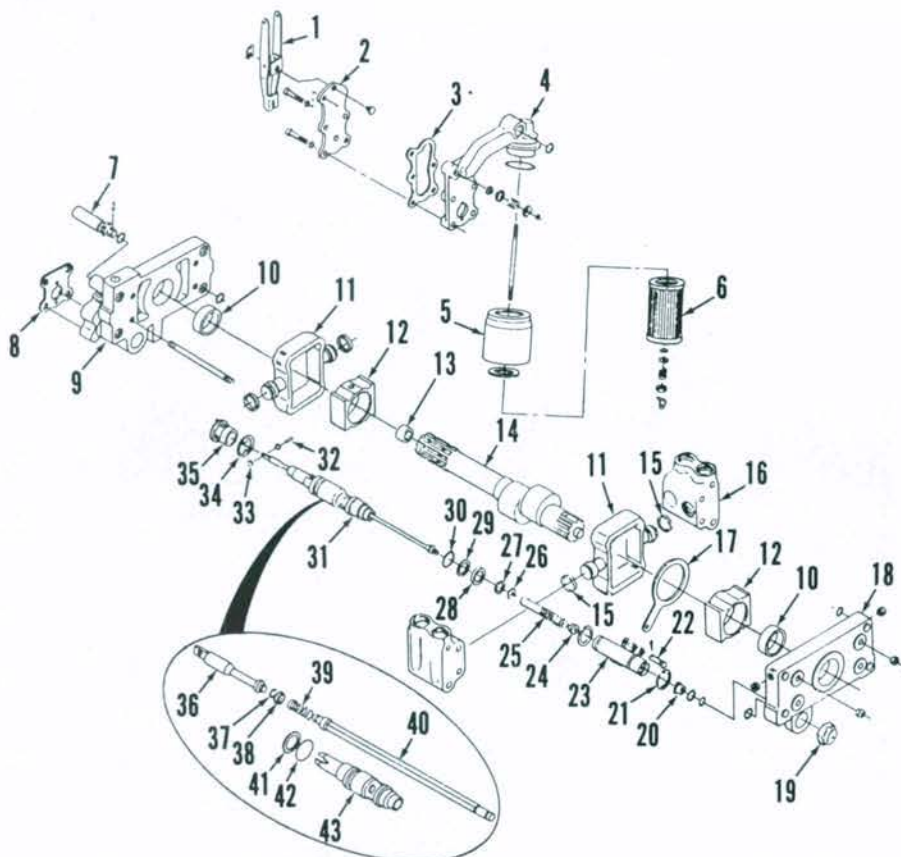

Fig. 231—Exploded view of hydraulic lift pump assembly. Safety relief valve (7) is used on models not equipped with pressure control valve.
224. OVERHAUL. To disassemble the removed hydraulic pump, disconnect the control lever pivot pin and remove control lever (1—Fig. 231) from valve rollers (33). Remove rollers and pin (32). Remove filter (6) and housing (5) from intake housing (4). Disconnect oscillator (23) from cam follower (17). Remove cap nut (19). Remove stud nuts, then
Inspect all parts and renew if excessively worn or damaged. The control valve spool and sleeve (31—Fig. 231) are serviced as a matched assembly. When renewing bushings (10) be sure end of bushing does not extend above machined surface of pump body and split in bushing is located at the top of body. Always renew all gaskets and "O" rings when reassembling.